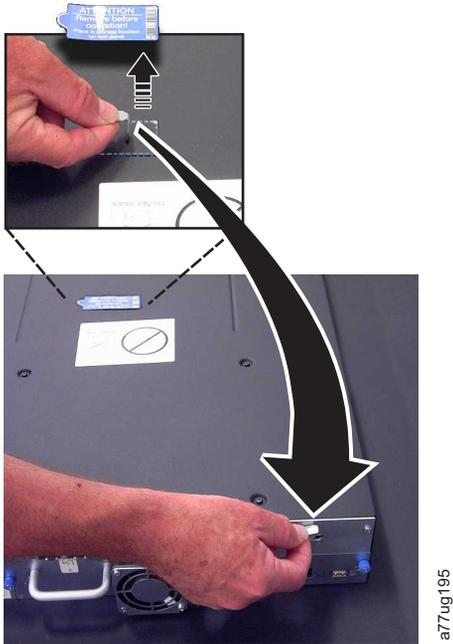

Figure 149. Removing the shipping label and lock from the top of the library and storing on the rear panel
4. Remove the shipping lock from the top of the replacement library enclosure (see Figure 149 on page 207).